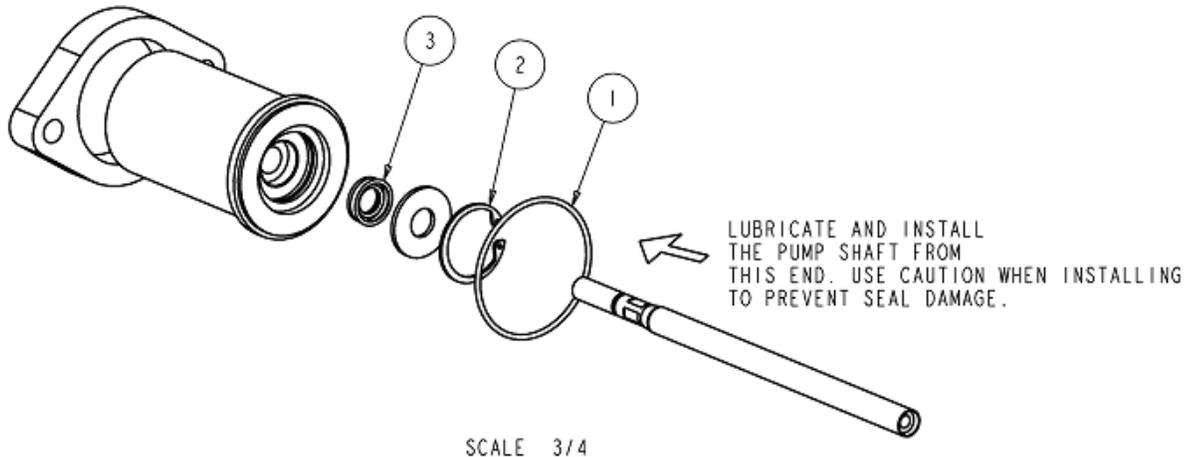

Figure 48: PR70 Rear Pump Rebuild Kit (LC0094)
6. Remove the existing rear pump build components (refer to Figure 48 items) from the pump bearing housing.
9. Install the new rebuild kit components into the bearing housing as indicated in Figure 48.
10. Apply 1 layer of thin masking tape over the male threads of the pump shaft, which mates with the drive block. This will prevent the threads from damaging the seal or Posipak (3).
11. Using extreme caution, slide the pump shaft through the hole in the bearing housing as indicated in Figure 48. Align the bearing housing in position next to the pump housing.